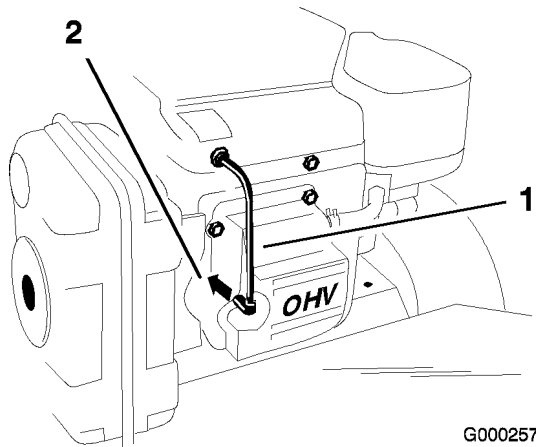

Figure 40
2. Pull the wire(s) off the spark plug(s) (Figure 40). Now clean around the spark plug(s) to prevent dirt from falling into the engine and potentially causing damage.
3. Push the wire(s) onto the spark plug(s) (Figure 40).